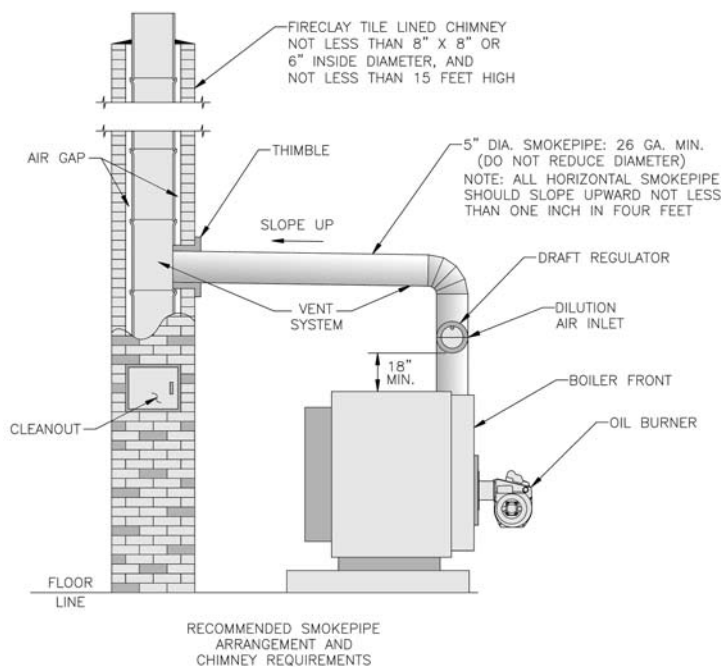

Figure 7
- 8. **INSTALL SMOKEPIPE** — The microTEK3™ should be vented into a fireclay tile-lined masonry chimney or a chimney constructed from Type L Vent or a factory built chimney that complies with the Type HT requirement, of UL103. The chimney and vent pipe shall have a sufficient draft at all times, to assure safe proper operation of the boiler. See Figure 7 for recommended installation.